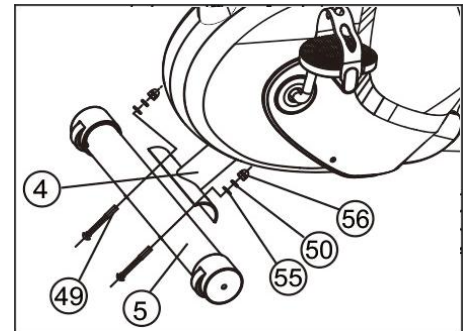

Figure1
Attach the Front stabilizer (5) to the Main frame (4) with two M8*20 bolt (49), Φ8 Flat washer(55) and Φ8 spring washer(50). (Refer figure 1)